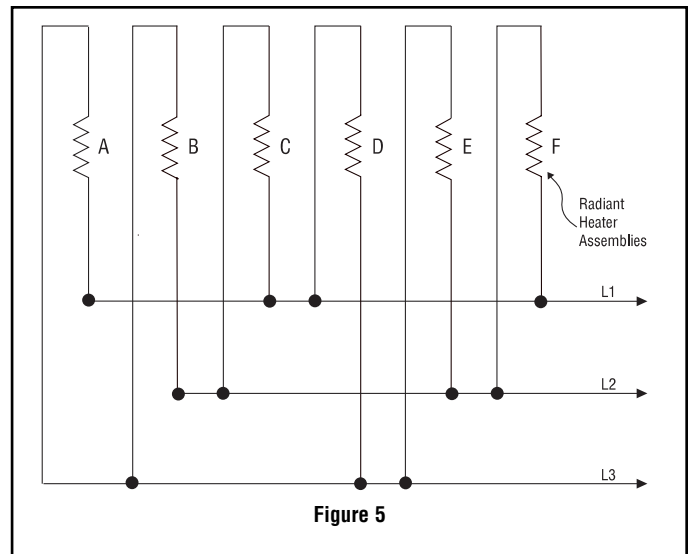

Figure 5
11. Delta Connections — When heaters occur in multiples of three, they may be connected to, and balanced across, three-phase lines. The most commonly used connection is the delta connection illustrated in Fig. 5. Three phase Delta connections to minimize inductive effect in conduits are made per this diagram. The rule: run all 3 three-phase conductors in the same conduit as far as possible. For single-phase, run only two conductors and follow the same rule.